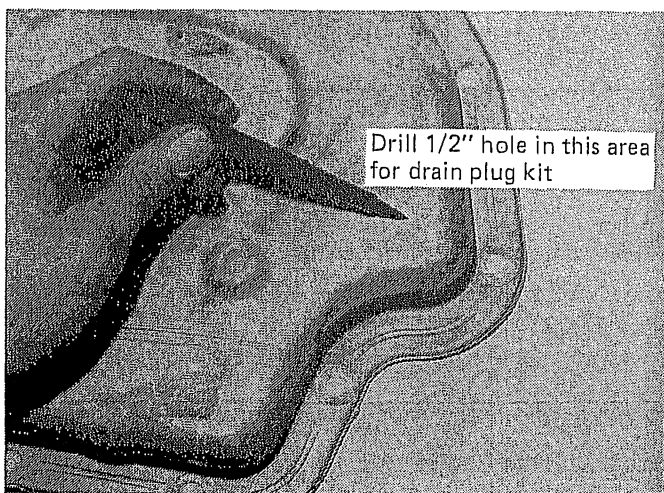
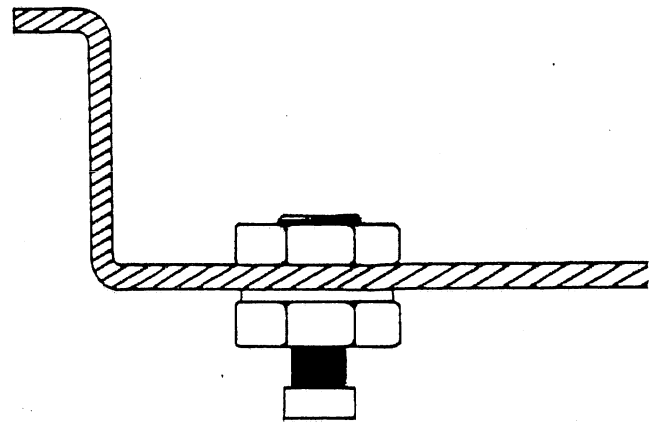

FIGURE 59
FIGURE 60
**STEP 34.** Drill a 1/2" hole in the oil pan in the area shown in Fig. 59. Deburr hole. Install drainplug sleeve assembly with plastic gasket on the outside and tighten nut. (See Fig. 60) Hold outer sleeve with a wrench when removing and installing drainplug.